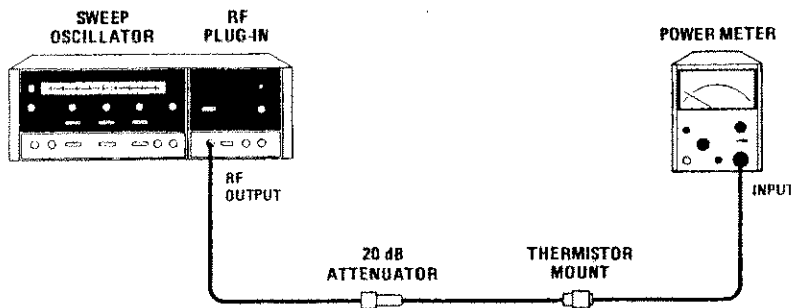

Figure 4-9. Internal Leveling Test Setup
- m. Connect equipment as shown in Figure 4-9.
- p. Connect equipment as shown in Figure 4-9, but substitute a 10 dB attenuator for the 20 dB attenuator.